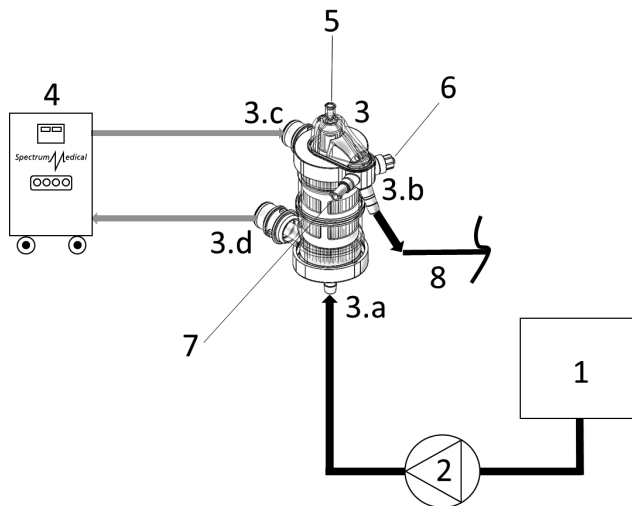

Fig. 2
- Check that the O-Ring is present on the HTF connectors (ref. 3c and 3d in Fig.2).
4. Remove the protective caps from the connectors on the HTF side of the device (ref. 3c and 3d in Fig.2).
5. Connect the tubes of the Spectrum Medical Quantum Heater-Cooler System (ref. 4 in Fig. 2) to the device (ref. 3c and 3d in Fig. 2) using the female quick-coupling connectors.
1. Connect the device to the cardioplegia extracorporeal circuit as shown in Figure 2.
2. Remove the protective cap from the blood inlet connector (ref. 3a in Fig. 2).
4. Remove the protective cap from the blood outlet connector (ref. 3b in Fig. 2).
6. The purge Luer-lock connector (ref. 5 in Fig. 2) must be connected to a purge line equipped with a stopcock. The purge line must be equipped with a one-way valve to prevent backflow into the device.
8. Connect an additional purge line to the overpressure valve (ref. 6 in Fig. 2).
10. Insert the YSI compatible temperature probe into the probe coupling of the device (ref. 7 in Fig. 2).
1. Open the purge line (ref. 5 in Fig. 2).
2. Clamp the device outlet line and start the cardioplegia pump (ref. 2 in Fig. 2) at a low flow (30-40 ml/min).
4. Close the purge line (ref. 5 in Fig. 2).